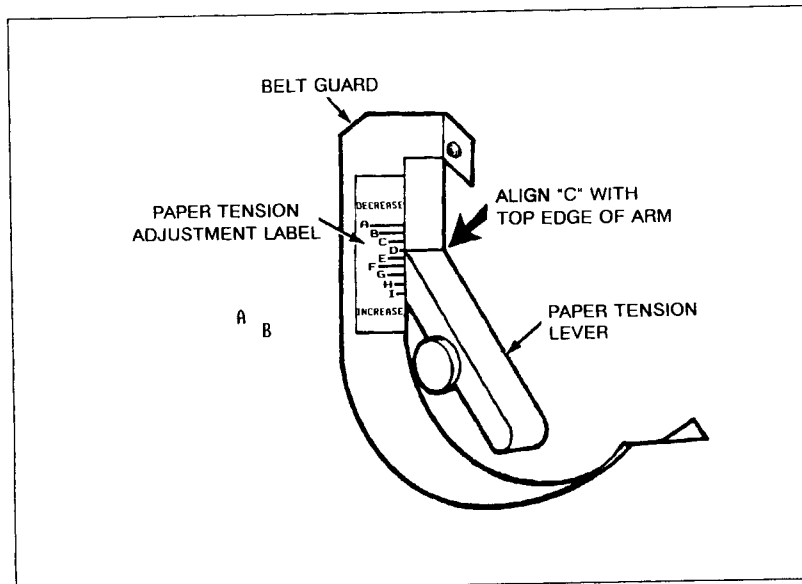

Figure 5-7. Paper Tension Adjustment
- a. Set the Paper Tension Lever in the "C" position (the third position down from the top - see Figure 5-7).